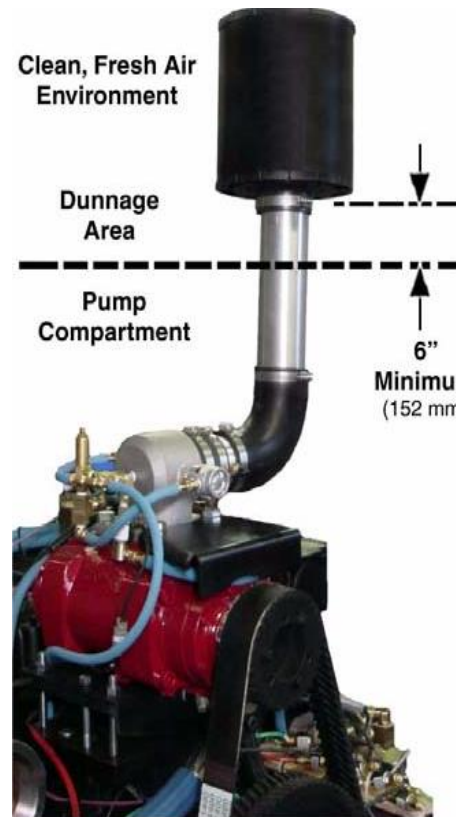

Figure 27: Air Intake Installation
- Mount the air filter 6" (152 mm) MINIMUM above the decking platform to prevent standing water from being sucked into the filter and possibly back into the system. (See Figure 27)